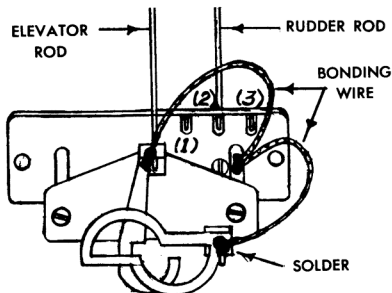

Figure 1
Use care to see that rudder and elevator torque rods (see Figure 1) are aligned at right angles to the phenolic mounting plate, so that the rods are free to move mechanically, before installation of the brass control arms, to insure freedom of movement. Be sure that the control surface hinges move freely and evenly. Some modelers prefer balsa rods and others use piano wire. If wire is used, $\frac{3}{64}$ " is satisfactory on small models, $\frac{1}{16}$ "
difficult and it will make the difference between solid, positive operation and intermittent operation. To bond your Mark V, solder a two inch length of light flexible stranded wire or metal braid from each brass actuating arm to the $\frac{3}{16}$ " brass spacer. Solder at both the arm and at the spacer and allow enough flexibility in the bonding wires to allow free movement of the brass actuating arms. See Figure 1.
In relay type receiver operation, one additional step is necessary. A 47 ohm resistor (included) should be soldered between solder terminals (2) and (3). See Figure 1. Insert the resistor close in to the solder terminals. This resistor prevents arcing at the receiver relay contacts, which can cause intermittent operation.
Refer to Figure 1. The Mark V can be mounted horizontally, as shown, or can be mounted vertically. Vertical mounting is used in many of the "midget" planes now so popular. In either mounting, the elevator surface must be held in neutral with a spring. This is easily done with a $\frac{3}{64}$ " spring wire or piece of flat spring stock. Be sure to make a limit stop for the elevator so that it can go only as high as the elevator linkage arm will move it to prevent over travel when stunting and when your model is upside down. The elevator torque rod should be attached to the left-hand side of the elevator, rather